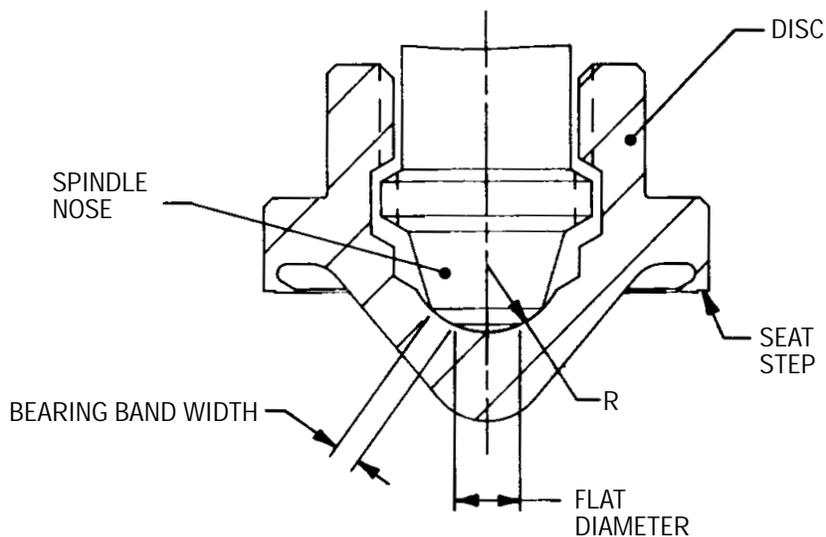

FIGURE 14
- e. The spindle nose should be ground into the disc pocket until the bearing is clearly marked. The band position is shown in Figure 14 (below).